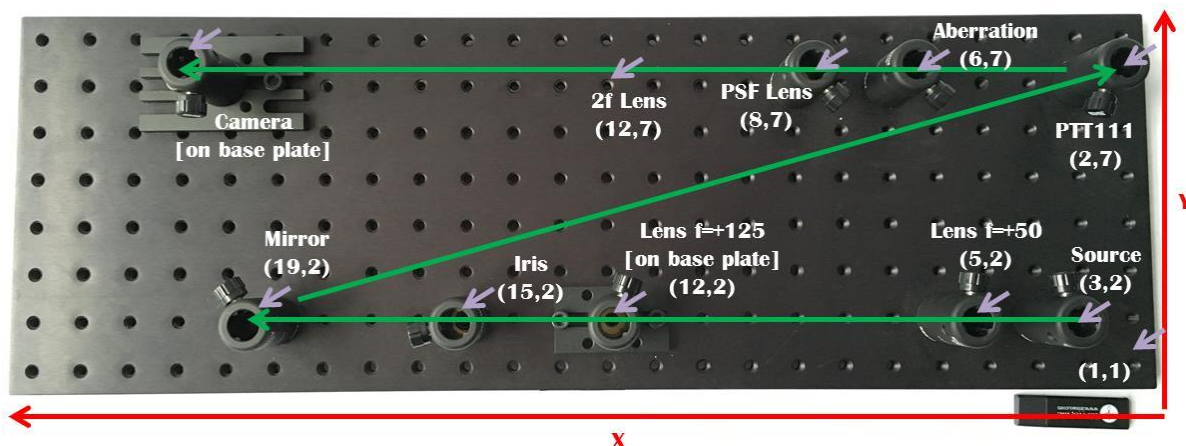

Figure 3: Iris AO Kit bench plate with post holders and base plates
- Screw seven post holders to the bench plate referencing the coordinates (2,7), (3,2), (15,2), (19,2), (6,7), (5,2), and (8,7). Then, screw two base plates to the bench with one post holder on each as in **Figure 3, below**.